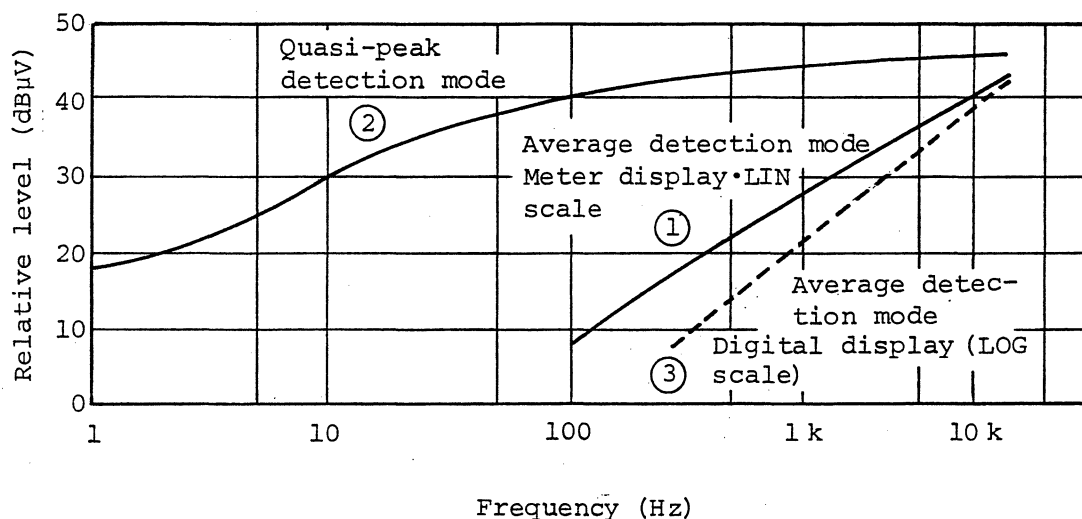

Fig. 3-25 Pulse Response Characteristics I at Quasi-peak and Average Detection Modes
Pulse response characteristics in both the average and quasi-peak detection modes are shown by lines ① and ② of Fig. 3-25. The measured values vary with the setting conditions.
The response characteristics in the LOG scale are shown by line (3) of Fig. 3-25.